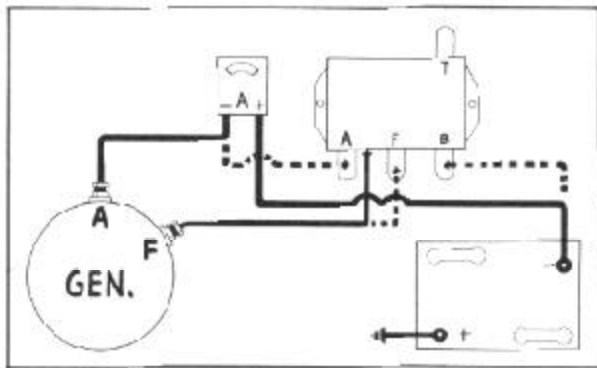

FIGURE 22
1. Disconnect wires from the "B" terminal of the voltage regulator and connect a reliable ammeter between the terminal and the battery lead, Figure 22.